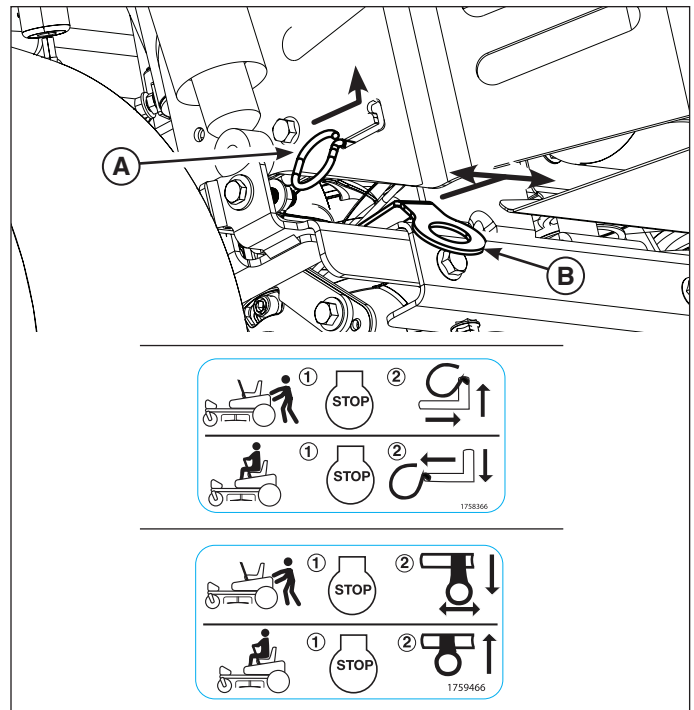

Figure 4
2. To disengage the transmissions, move the roll release levers (**A** or **B**, Figure 4, depending on model), into the PUSH position as shown.